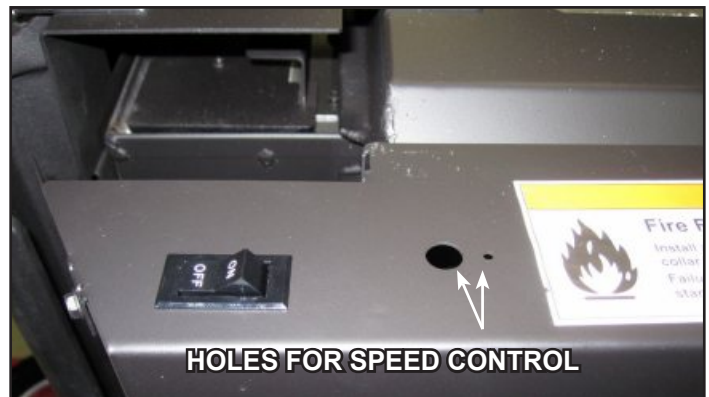

Figure 8.6 Pre-Punched Holes for Speed Control
4. Remove the knob and locknut from the speed control. Install speed control onto rear shroud with stem protruding from pre-punched hole. Attach the lock nut tightly and reattach the knob on the stem. See Figure 8.6.